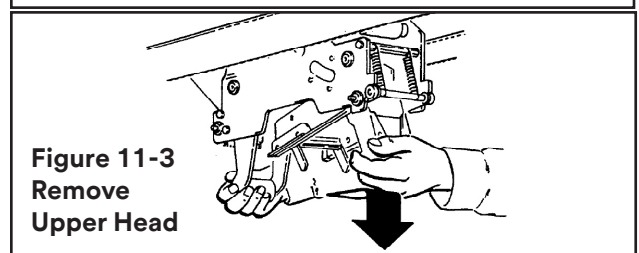

Figure 11-3
3. Hold upper taping head applying and buffing arms from under upper assembly, slide head forward and down to remove (Figure 11-3).